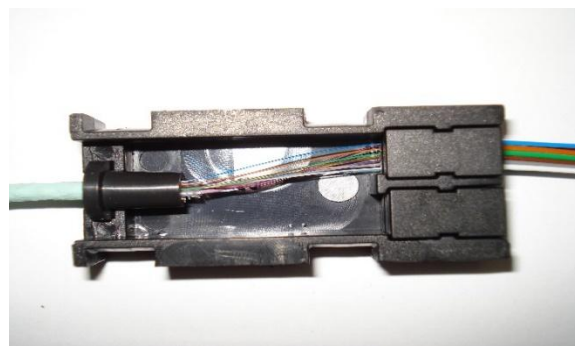

Figure 6
7.4 Once all the strands of the sub-unit are inserted into the tubing, carefully grasp and push all fibers through each Breakout Unit Assembly tubing as a group. Push until ends of the PEF jacket and inner nylon jackets are even with or just past the inside of the 2(or 3 mm) bushing. (**See Fig. 6**)
7.5 Install the 1st subunit block in position # 1 and the 3 blank blocks in positions 2 – 4. Install the bushing in the slot of the base unit.(**see Fig. 6 and 7**)